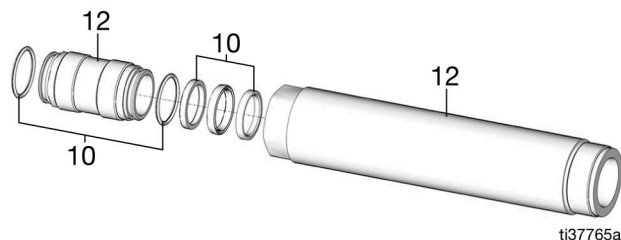

FIG. 28
11. Remove the seal retainer (6) from the pump cylinder (2) (FIG. 28).